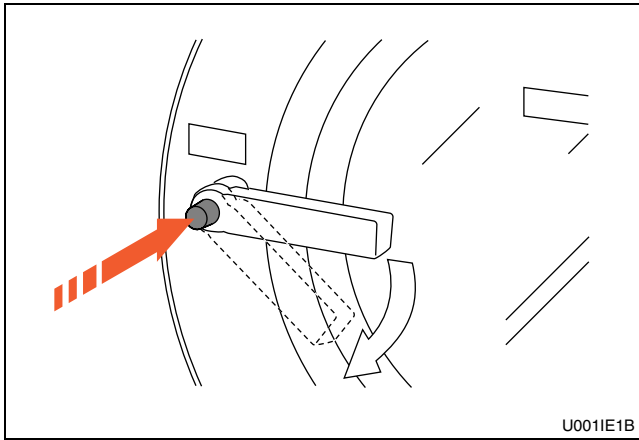

Figure 9
2. Push button and turn handle clockwise to open. Refer to *Figure 9*.